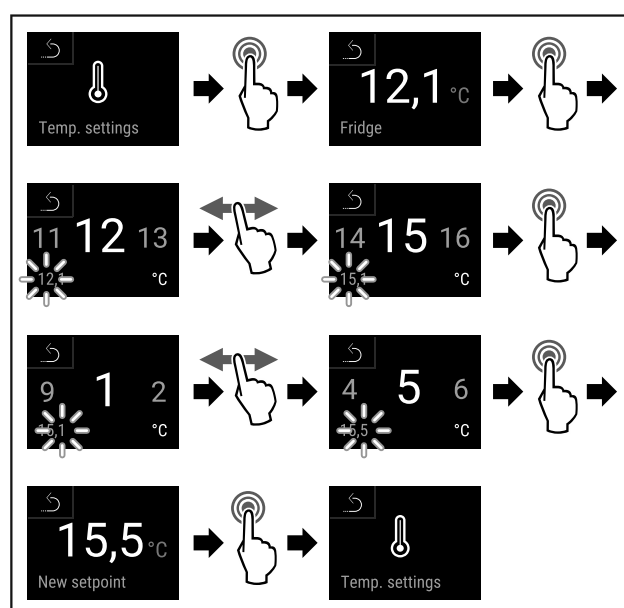

Fig. 90
- ▶ Complete steps (see Fig. 90).